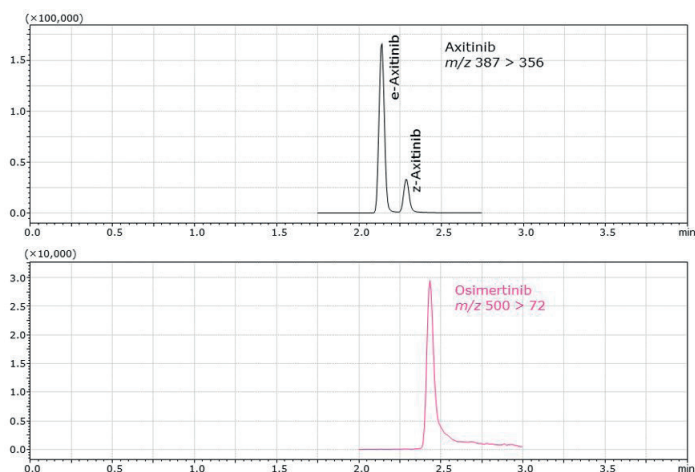
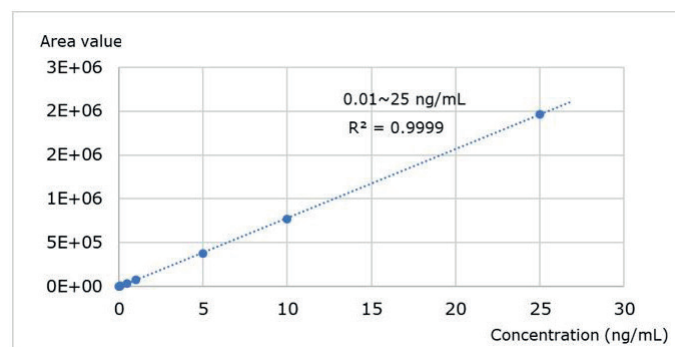

Figure 2. SRM chromatograms of Axitinib (top) and Osimertinib (IS) (bottom).
Figure 3. Standard curve for Axitinib.
SRM (Selected Reaction Monitoring) chromatograms of Axitinib and Osimertinib (IS) are shown in Figure 2. Under the LC conditions used in this application note, two peaks were detected in the Axitinib chromatogram. This was attributed to the separation of the isomers. In this study, we determined the peak area value for the peak at elution time of 2.14 minutes and used this to create the calibration curve*. The calibration curve generated is shown in Figure 3.